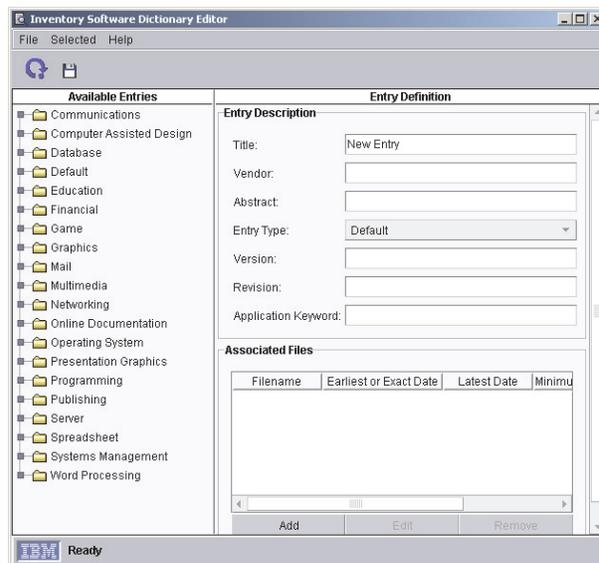

Figure 62. “Inventory Software Dictionary Editor” window
1. In the IBM Director Console Tasks pane, right-click the **Inventory** task; then, click **Edit Software Dictionary**. The “Inventory Software Dictionary Editor” window opens. (See Figure 62 on page 100.)